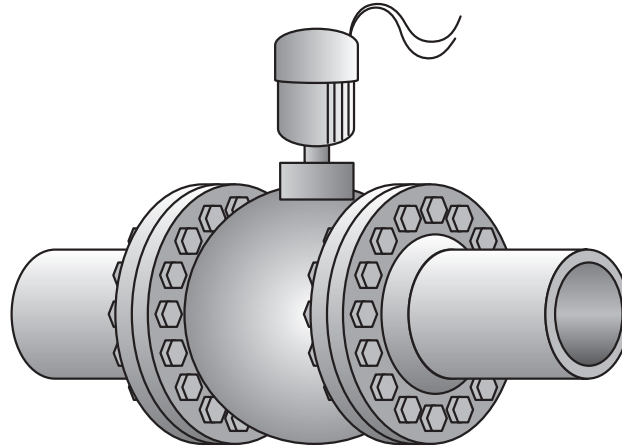

Figure Q9(a)
9. The coolant in a power plant flows through large pipes. A motorised flow-control valve (FCV) in one pipe is shown in Figure Q9(a).